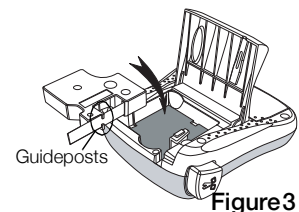

Figure 3
- 2 Insert the cassette with the label facing up and positioned between the guideposts. See Figure 3.